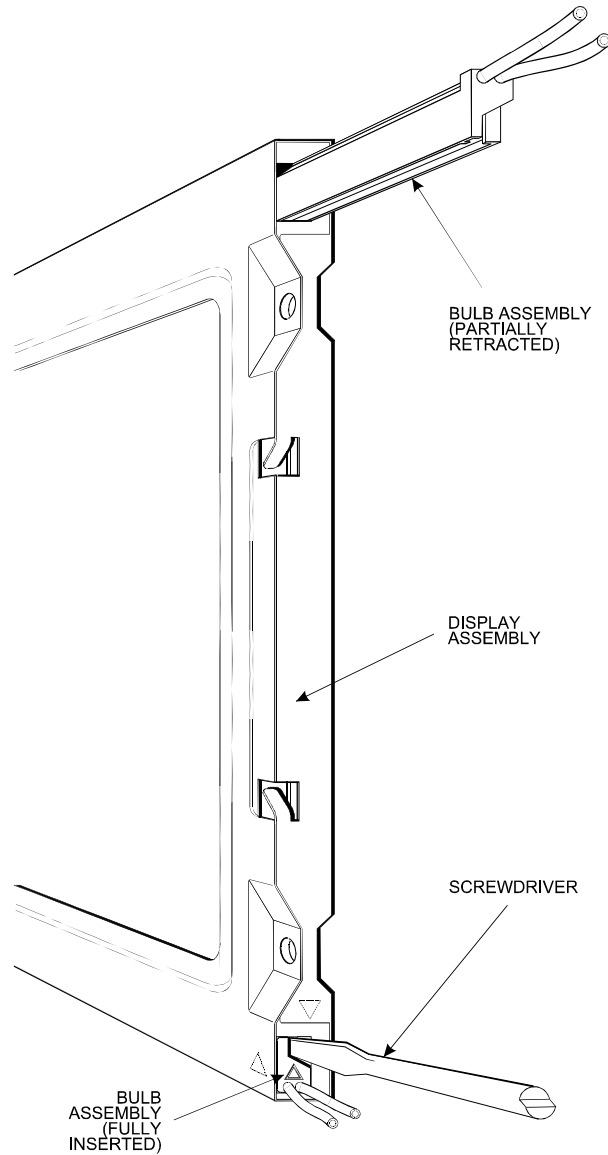

Figure C- 2. Model #LQ10D421 Bulb Assembly Removal
11. Insert a flat-bladed screwdriver in the opening at the end of the bulb assembly, as shown in Figure C- 2, and push up until the bulb assembly releases.